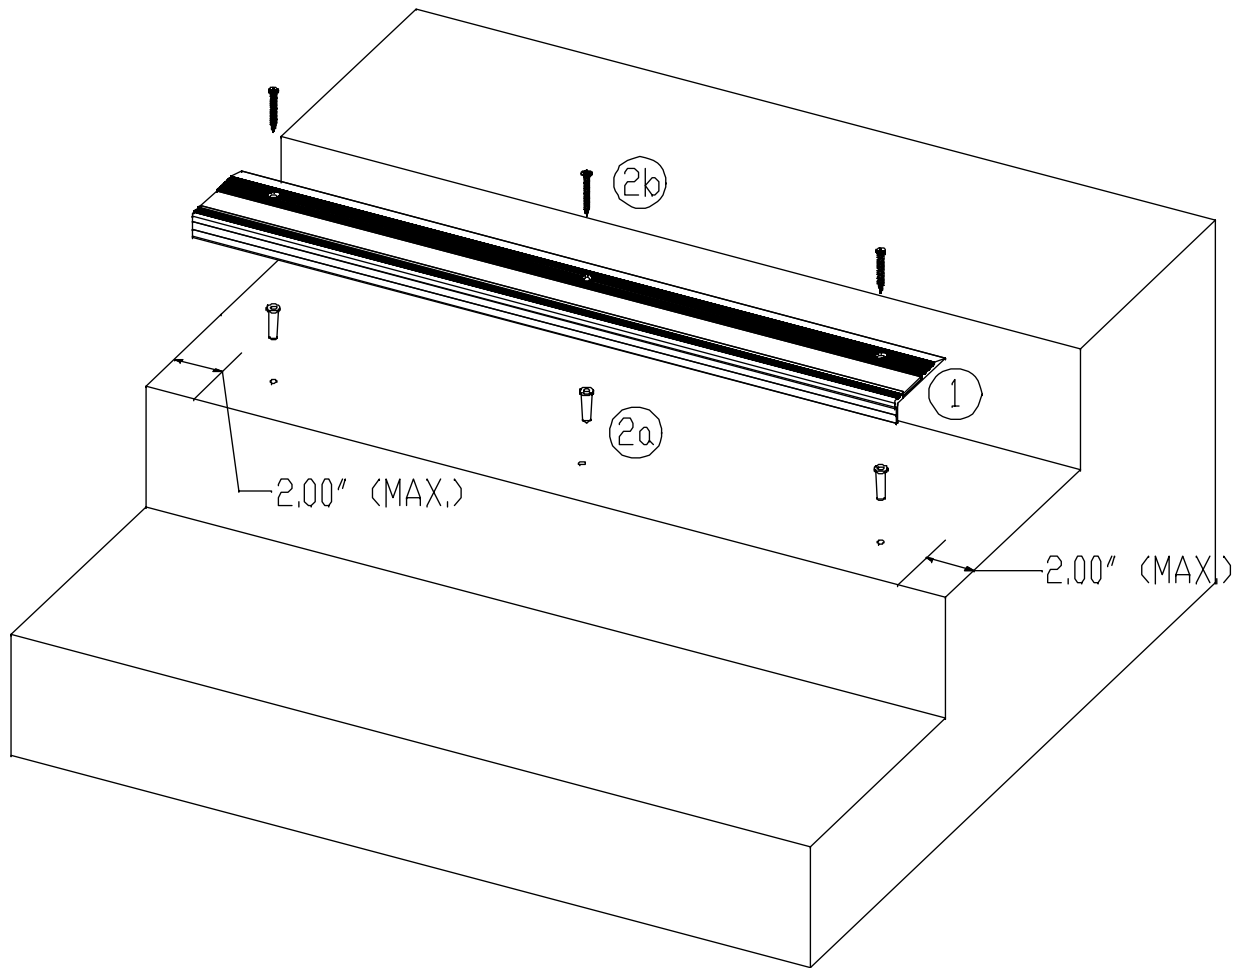

Figure 1
STEP 1. Place the nosing into its installed position on the stair tread (Figure 1). Ensure that the nosing is level, plumb, and properly aligned. Use the factory drilled holes in the nosing to mark the locations for the anchors on the stair treads.